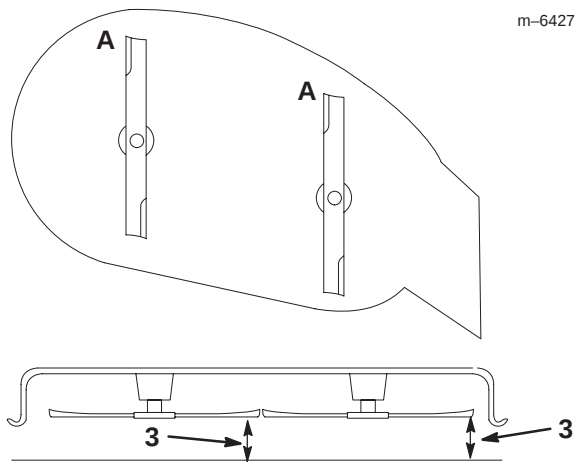

Figure 28
1. Rotate the blades until the ends face forward and backward (Fig. 28). Measure from a level surface to the cutting edge, position A, of the blades (Fig. 28). Note this dimension.